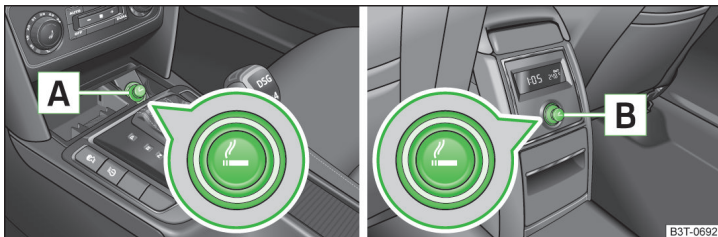
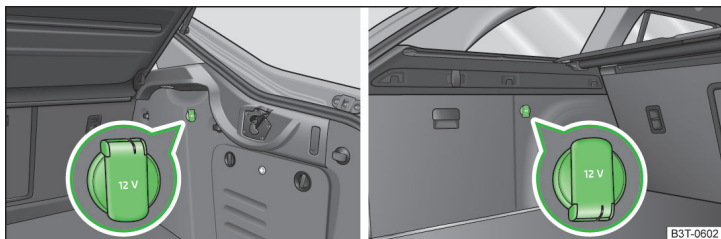

Fig. 84 Centre console: Cigarette lighter, front/rear
Fig. 86 Boot: Superb / Superb Combi socket
- Press the button of the cigarette lighter **A** or **B** » Fig. 84.
The 12-volt power socket (hereinafter referred to only as a socket) is located in the front center console **A** » Fig. 84 on page 89 in the rear center console **B** » Fig. 84 on page 89 and in the luggage compartment » Fig. 86.
- Remove the cover from power socket or cigarette lighter » Fig. 84 on page 89 or open the cover for the power socket » Fig. 86.